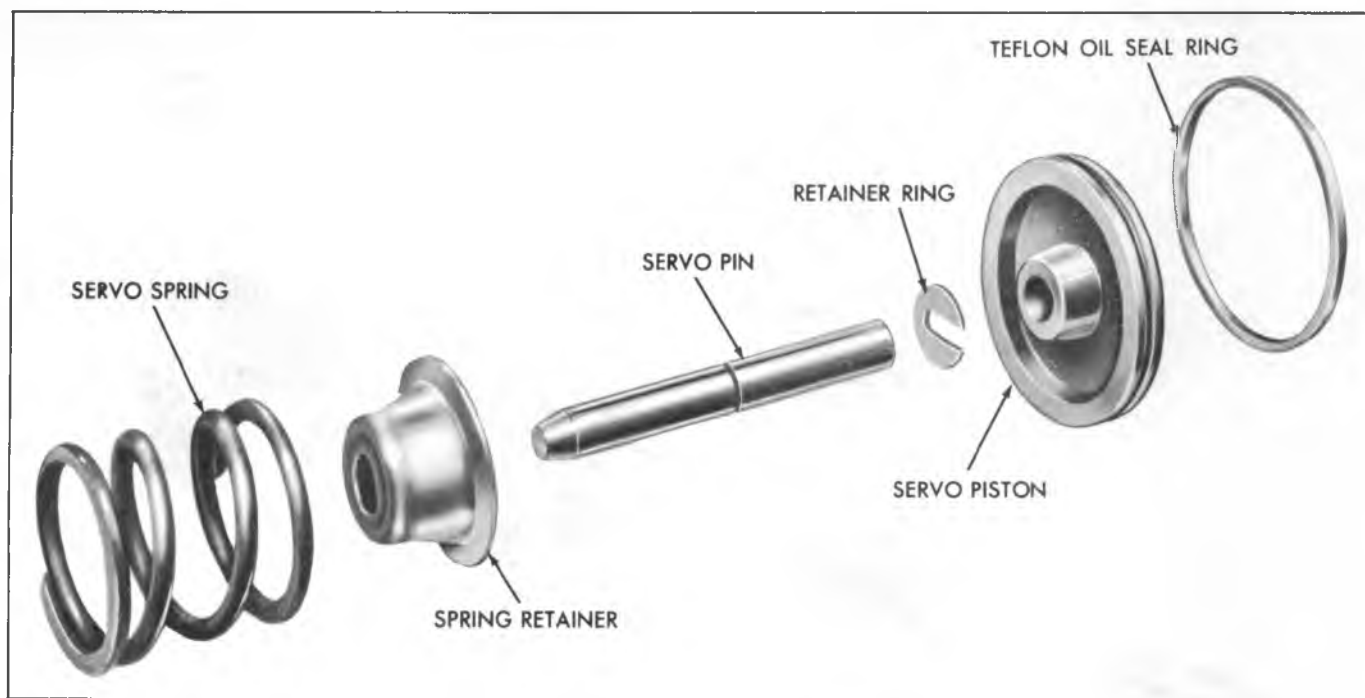

Fig. 50T-- Front Servo Assembly--Exploded View
**NOTE:** See figure 50T. Do not remove the teflon oil seal ring from the front servo piston unless the oil seal ring requires replacement. For service, the oil seal ring is aluminum.